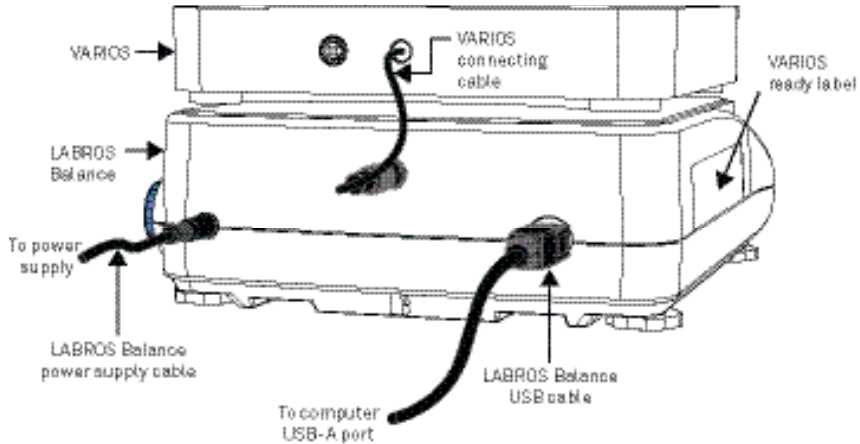
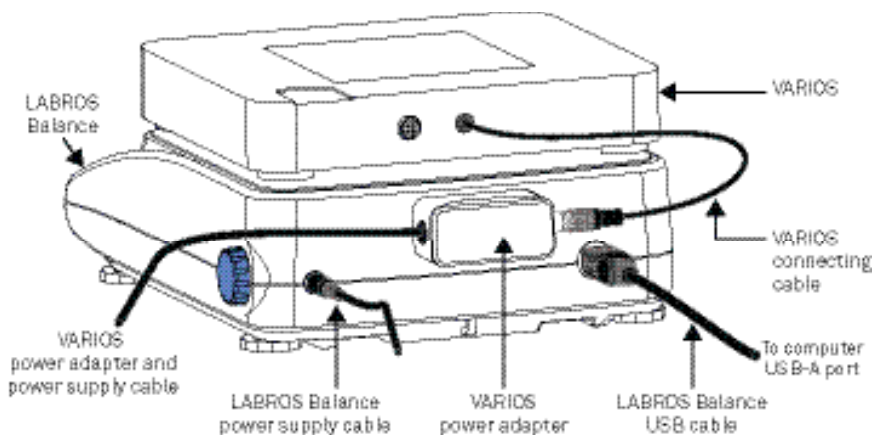

Figure 3 VARIOS Complete Set for thermal dryout configuration—back view
Figure 4 VARIOS Extension Set with power adapter for thermal dryout configuration back view
The VARIOS Extension Set does not include the LABROS Balance. If this set will be used with an existing HYPROP Balance (not VARIOS ready), make sure a USB cable and power adapter with cable is included (Figure 4).
Installation	<p>Install LABROS SoilView Software and METER USB Driver Download the <a href="#">LABROS SoilView Software Download</a>.</p> <p>Run the <a href="#">LABROS SoilView.exe</a> file and follow the installation instructions.</p> <p>NOTE: LABROS SoilView software can only be used with Microsoft Windows 10 or newer.</p> <p>If there is a problem executing the LABROS SoilView.exe, please download and install Microsoft.NET Framework 4.8.0 manually and have the current version of the Microsoft Windows installer.</p> <p>Click on the LABROS SoilView icon to open the program.</p> <p>Connect VARIOS to LABROS Balance (VARIOS ready) Insert the VARIOS connector cable into the back of the LABROS Balance (<a href="#">Figure 3</a>).</p> <p>Connect VARIOS to a HYPROP Balance that is not VARIOS Ready Connect the VARIOS connector cable into the VARIOS power adapter, and plug the power adapter into the HYPROP Balance (<a href="#">Figure 4</a>).</p> <p>When the VARIOS is powered, a blinking white light will appear on the front of the unit. See <a href="#">Table 10</a> for more information regarding the lights and meanings.</p>
Follow the steps below to connect the VARIOS Complete Set (Figure 3).
4. Plug the VARIOS connection cable on the back of the VARIOS into the connector (Figure 3).
5. Plug the USB-B connector to the back of the Balance and the USB-A connector to the computer (Figure 3).
When using an existing Balance that is not VARIOS ready, the Extension Set should be used. The Extension Set includes a METER power supply that plugs into the back of the Balance to provide enough power to run the VARIOS unit. Contact Customer Support for ordering information if a VARIOS power adapter is needed. Follow the steps below to connect the VARIOS Extension Set (Figure 4).